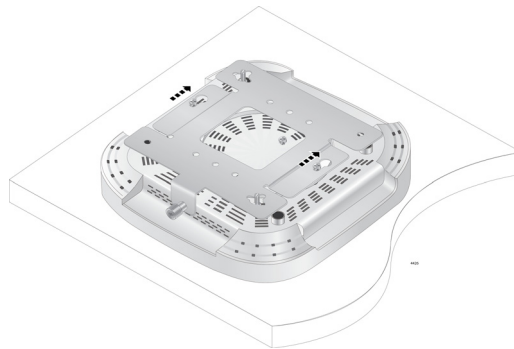

Figure 17. Seat Access Point onto Mounting Bracket
2. Slide the chassis forward until seated into the bracket keyhole slot and the bracket thumbscrew is aligned with the screw hole on the front of the chassis, as shown in Figure 17.